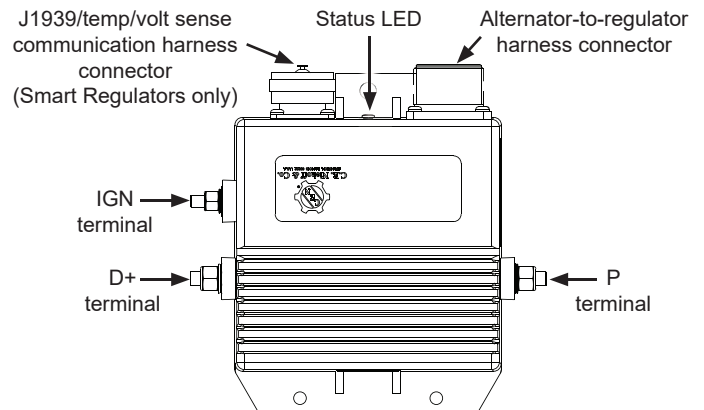

Figure 6: Regulator Connections
3. Plug alternator-to-regulator into receptacle on regulator. See Figure 6 for receptacle location.
- Regulator **IGN terminal** (required) must receive voltage from vehicle DC ignition source, typically oil pressure switch or multiplex in order to energize regulator. Torque terminal hardware to 4.5 Nm/40 lb. in. See Figure 6.
- Regulator **D+ terminal** (if required) provides DC system battery voltage to vehicle (5A maximum) for charge indicator lamp, relay, or multiplex while alternator is producing output. Torque terminal hardware to 4.5 Nm/40 lb. in. See Figure 6.
- Regulator **P/AC/R terminal** (if required) taps AC voltage from alternator, typically half the charge voltage (3A maximum). P/AC/R terminal provides alternator RPM frequency at 10:1 ratio for use with tachometer. Torque terminal hardware to 4.5 Nm/40 lb. in. See Figure 6.
5. If using a J1939/temperature/voltage sense harness, plug harness into J1939 receptacle on regulator. See Figure 6 for receptacle location. Refer to installation instructions included with harness for more information. Harness sold separately².